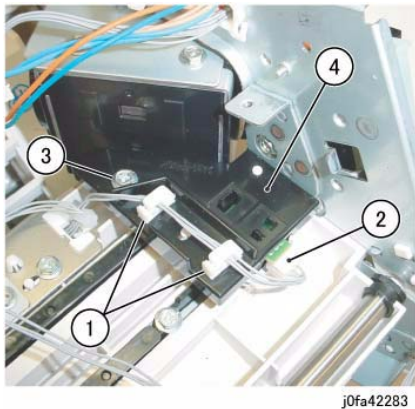

Figure 3 Removing the Rear Tamper Home Sensor Assembly (j0fa42283)
8. Remove the Rear Tamper Home Sensor Assembly. (Figure 3)